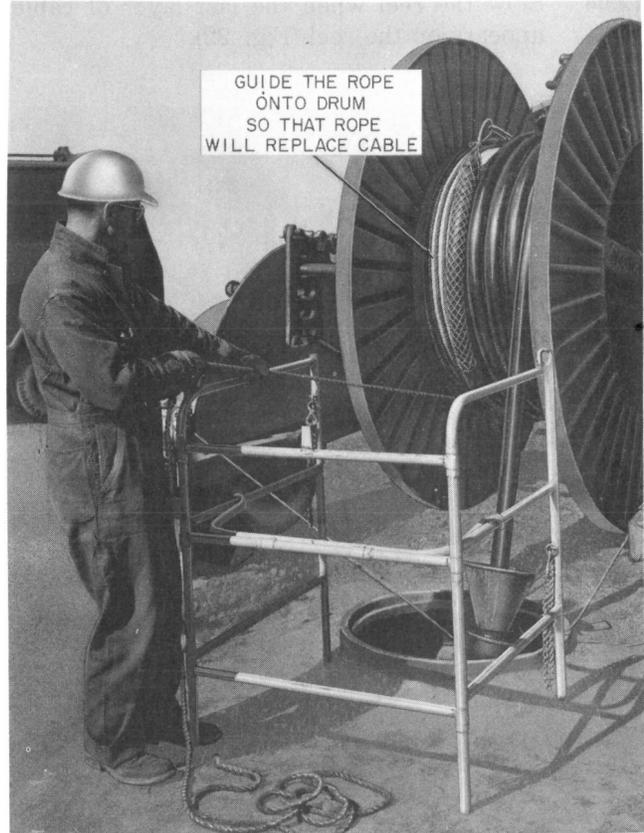

Fig. 25—Last of Cable Being Lowered
- 12.08** Resume the cable pull and, as the reel turns, guide the rope onto the drum to replace the cable leaving the reel, as shown in Fig. 25. When the end of the cable leaves the reel, four turns of rope will remain and the rope will then be wound on the drum at the same rate of speed as the cable being lowered. Continue the pull until the desired amount of cable is in the manhole.